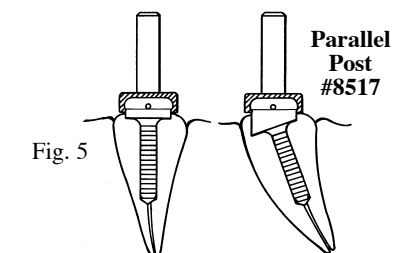

Fig. 5
8. Using the LOCATOR Parallel Post (Zest order #8517) as a handle, place a 0 Degree Female into each of the completed preparations to visually approve the proper fit and the parallel alignment of the multiple attachments. If the alignment of any of the attachments can be improved, select the most suitable angled female (10 or 20 degrees) and rotate it in the preparation to determine its position of optimum parallelism. (Fig. 5)